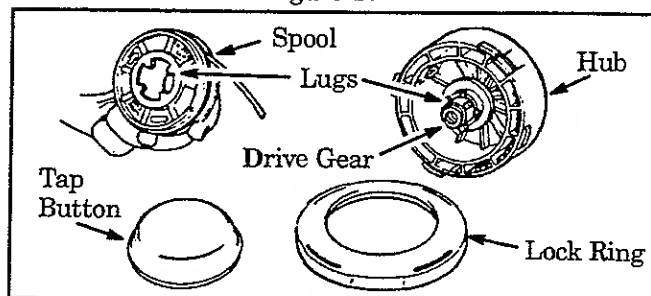
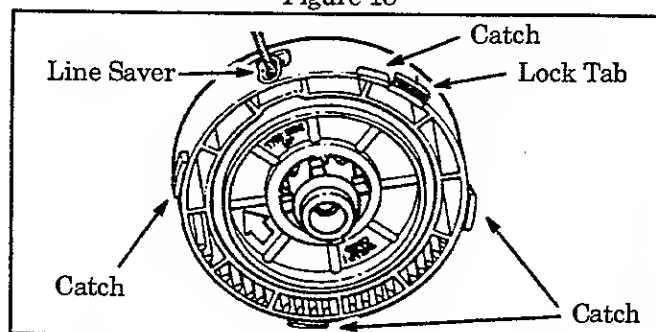

Figure 18
Figure 19
- Remove the lock ring, tap button, and spool. Figure 18.
**NOTE:** The aluminum line saver (Figure 19) can become worn during use. After a groove is worn into the line saver, remove it from the trimmer head, turn it upside down, and re-install it (with the spool removed) to provide a new wear surface.
- Insert the end of the line through the line saver. Figure 19. Place the spool in trimmer head. Press the spool down, then turn it enough to lock the lugs on the spool under the lugs on the drive gear. Figure 18.
- Replace the tap button. Align the lock ring over the catches on the hub; push the lock ring down on the hub and turn it clockwise until the catches lock into place. Figure 19.